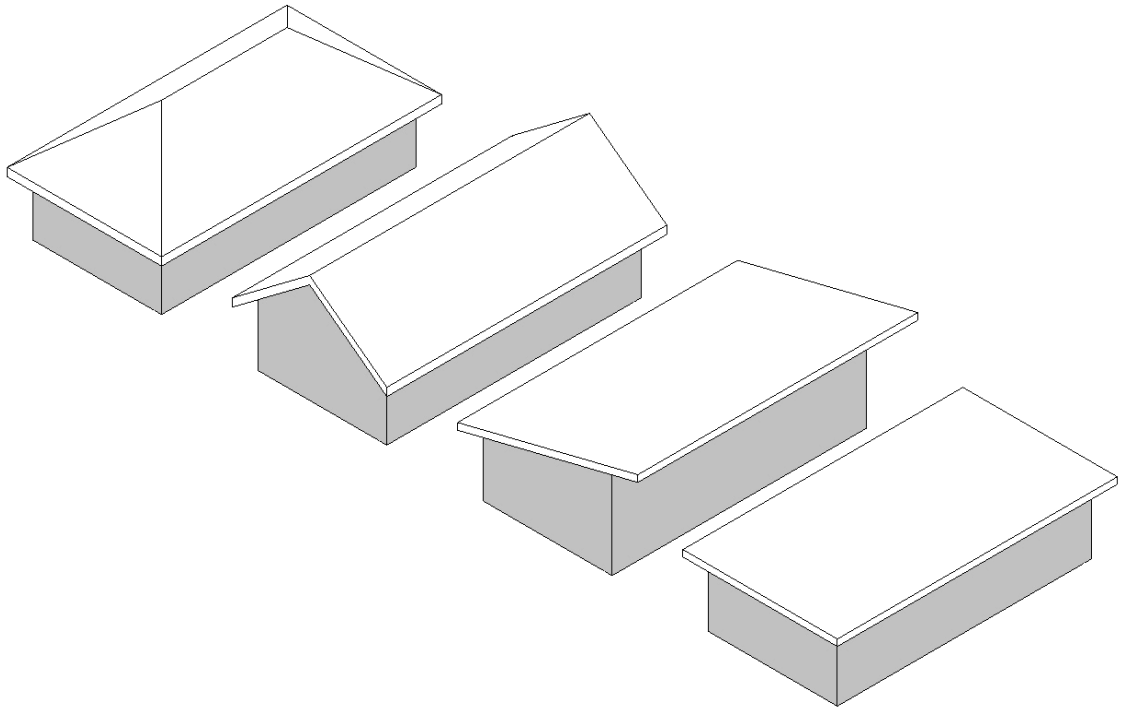

Figure 7-1.14 Default 3D view – Flat roof
55. Also, take a look at the **3D** view (Figure 7-1.14).